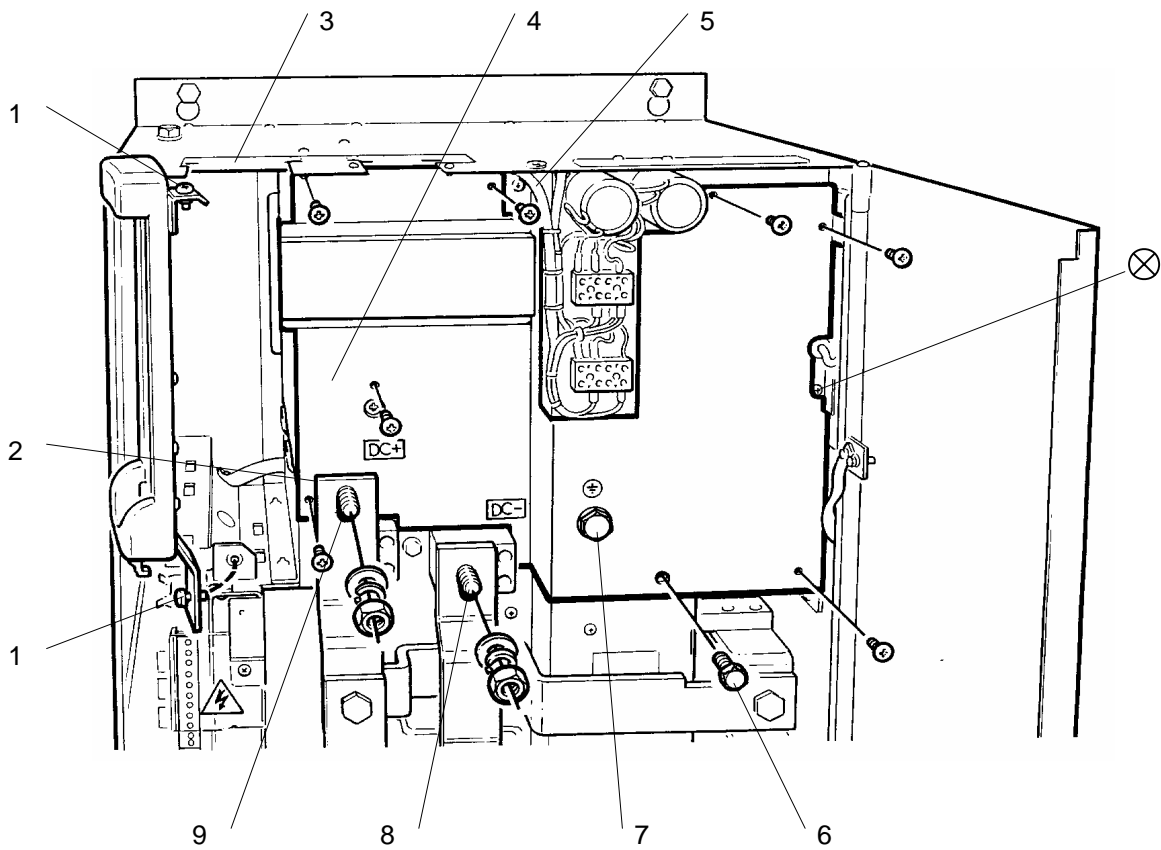
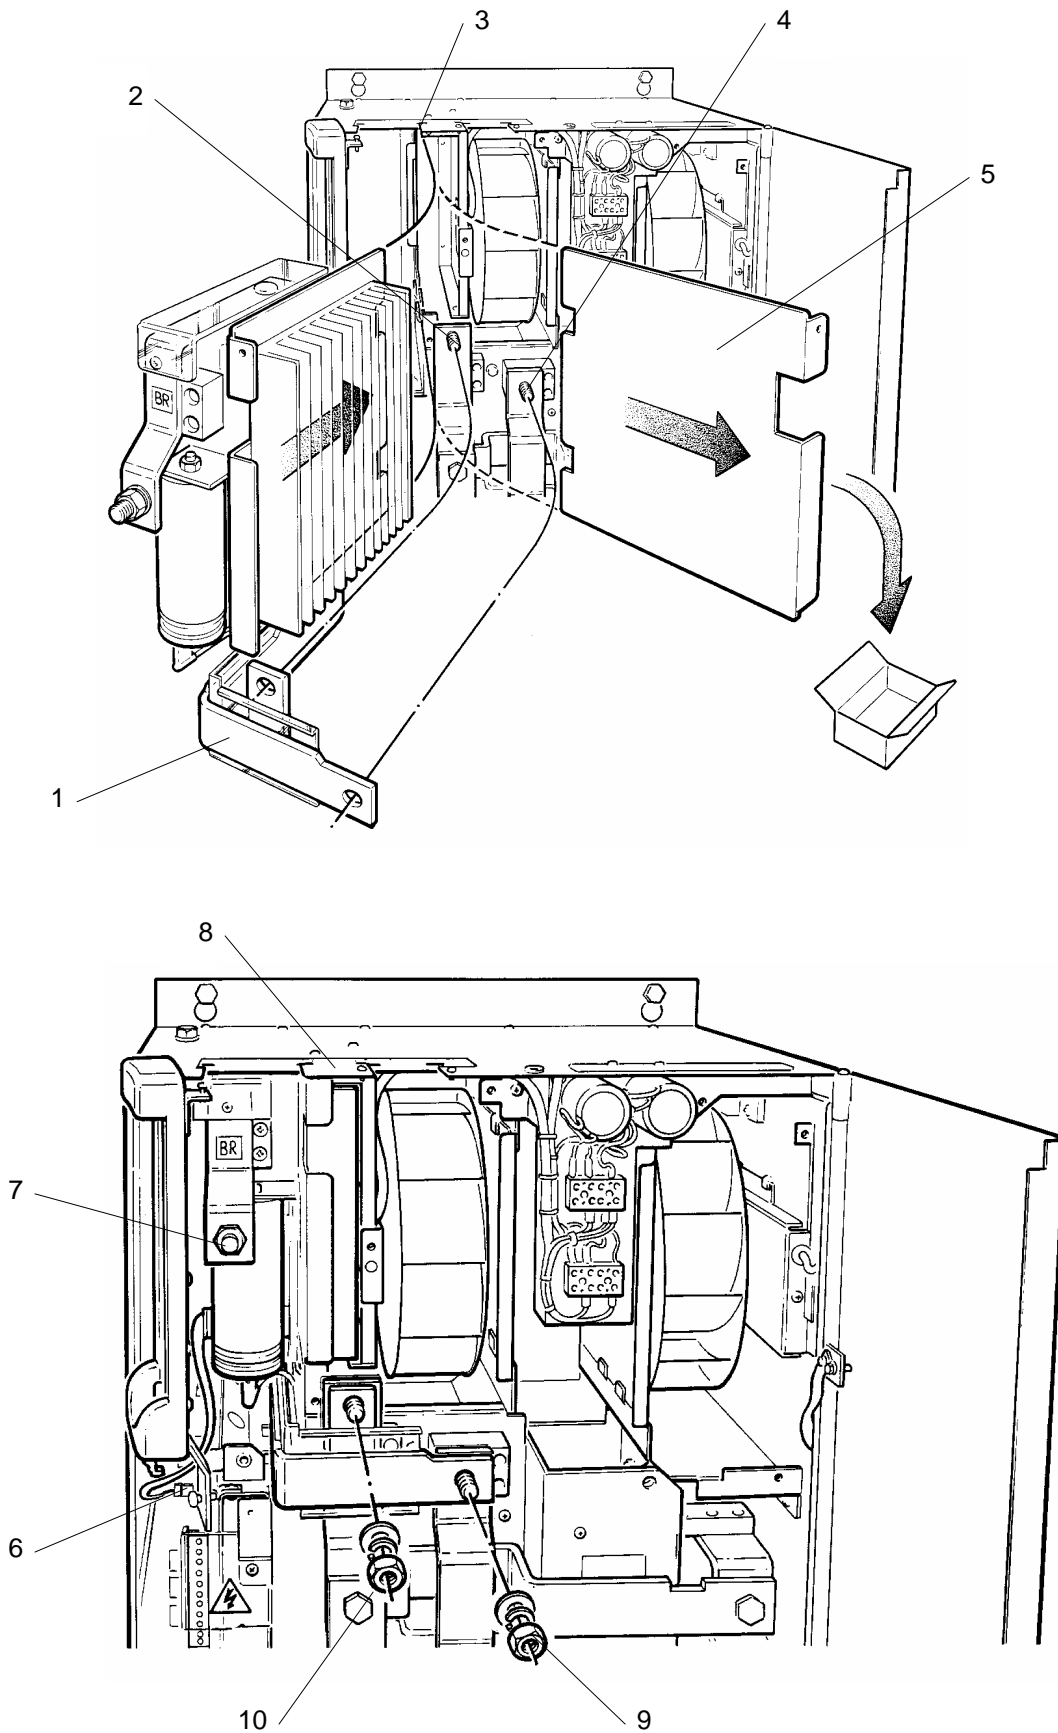

Figure 4-11 Fitting to frame size 7 – preparation
Figure 4-12 Frame size 7 – installing the DB Unit
(Refer to Figures 4-11 and 4-12)
1. Referring to Figure 4-11, release the two captive M5 screws (1) securing the keypad harbour and swing it open.
2. Remove seven M5 cross-head screws securing the fan access plate (4) to the chassis, also remove the M8 bolt and spring washer (6) securing the plate to the transistor-transistor unit chassis. Do not remove earthing screw (7) or fan securing screw (8). Carefully manoeuvre the top of the access plate past the fan cable (5) and fan terminal blocks, then lift the plate clear of the DC+ busbar (2).
3. Remove the M12 nuts, spring washers and plain washers from the DC+ stud (9) and the DC- stud (8).
4. Remove the securing panel (3), and remove and retain all the fingerguards.
5. Referring to Figure 4-12, remove the blanking panel (5) by sliding it out from the chassis guides (3).
2. Referring to Figure 4-12, slide the DB Unit into the drive chassis, ensuring that the top and bottom edges of the DB Unit are located correctly in the guides (3) as shown in Figure 4-12. Ease the busbars (1) over the DC+ stud (2) and DC- stud (4), and slide fully into position.
3. Secure the DB Unit negative busbar to the DC- stud, using an M12 nut, spring washer and flat washer (9) (supplied in the DB Unit kit). Torque as shown above.
5. Referring to Figure 4-11, re-fit the fan access panel (4) by placing the bottom behind the DC+ busbar (2) and easing the top past the fan cable and the fan terminal blocks. Secure the panel to the drive chassis with seven M5 screws and secure to the transistor-transistor chassis with an M8 bolt and spring washer (7).
6. At the top of the chassis, fit the plastic fingerguard and secure with panel (3). Cut away sufficient fingerguard to allow the braking resistor cables to enter the drive.
7. Secure the crimp of one DB resistor cable to the DC+ stud (9), using an M12 nut, spring washer and flat washer. Torque as shown above.
8. Referring to Figure 4-12, secure the crimp of the other DB resistor cable to the BR stud (7), using an M12 nut, spring washer and flat washer. Torque as shown above.
9. Referring to Figure 4-11, close the keypad harbour and secure with the two captive screws (1).